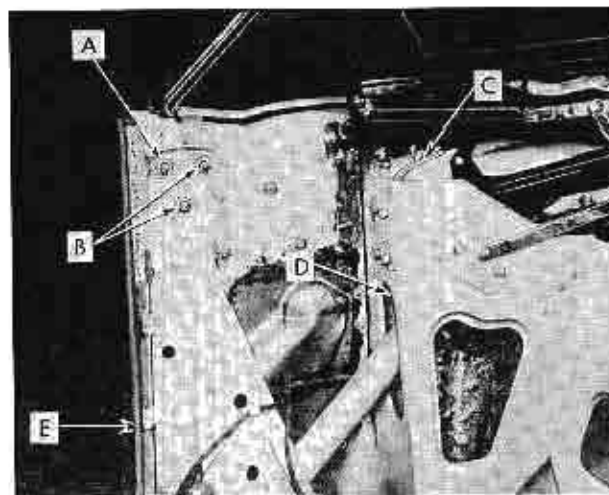

Fig. 3-44 Rear Quarter Window Assembly (6267)
4. Turn trim panel away from inner panel to gain access to pivot bolt "A", Fig. 3-44.
5. To adjust the rear quarter window in or out, loosen the pivot bolt and the adjusting stud nuts "B", Fig. 3-44. Turn the studs in or out until the desired position of the window is attained. Retighten stud nuts and pivot bolt.
7. The up travel of the window can be adjusted by loosening the stop attaching screws "C", Fig. 3-44, and moving the stop up or down as desired. Retighten screws when adjustment is completed.
8. In connection with the preceding adjustments, it may be necessary to adjust the rear quarter window guide channel. To adjust the guide channel, loosen screw "E" at lock pillar and adjusting stud nut "D", Fig. 3-44. Position the guide channel to the desired location and retighten screw and stud nut.
4. Turn trim panel away from the inner panel to gain access to pivot bolt "A". Then remove pivot bolt and disengage the rear quarter window male hinge from the female hinge plate, Fig. 3-44.